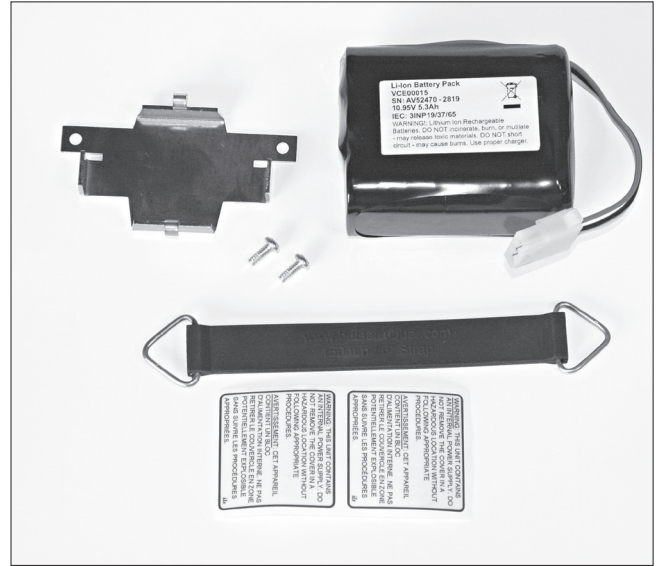

Figure 1.
2. Verify parts received to **Figure 1**, and **Table 1** shown above.